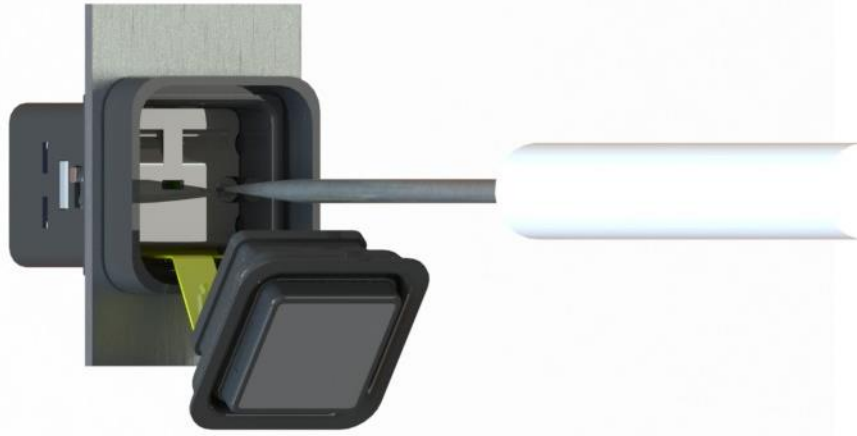

Figure 12
- 3.8. Insert torque screw driver into screw pawls heads and turn clockwise to tighten screw pawls against mounting spacers. Ensure that the seal is properly interfaced against the cup. Mounting spacer should remain in place when screw pawls are being tightened. If the spacer(s) do not remain in place, hold spacer in place until screw pawl swings out of housing. Torque screw pawls to  $10 \pm 2$  inch ounces (Figure 12). Switch assembly should be installed into panel at this point.